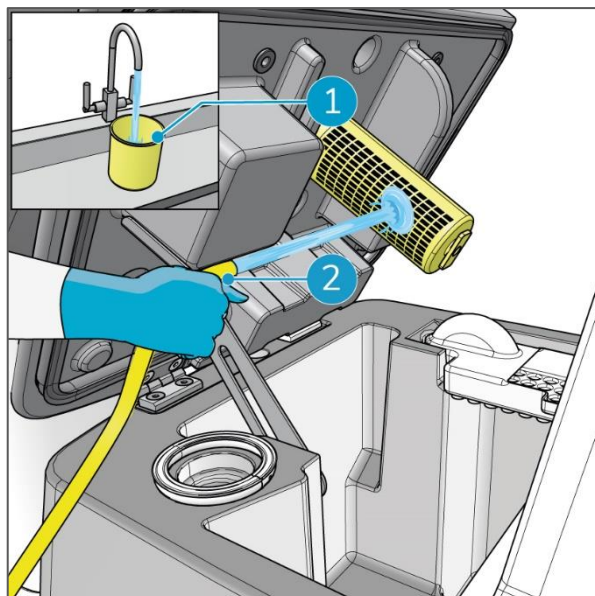

Figure 49
2. Clean the yellow cup with tap water, above a sink (Figure 49, pos 1).
3. Clean the separator with a hose (Figure 49, pos 2).